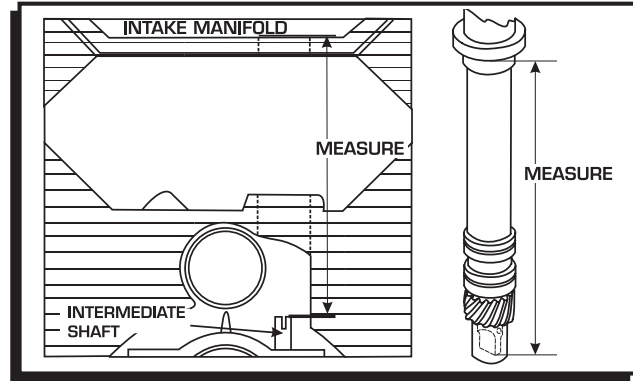

Figure 2 Measuring Oil Pump Overlap
1. Measure the distance between the base of the slip collar to the tip of the distributor shaft (Figure 2).
2. Using a straight edge, measure the distance from the intake manifold distributor flange to the bottom groove on the oil pump shaft (Figure 2).